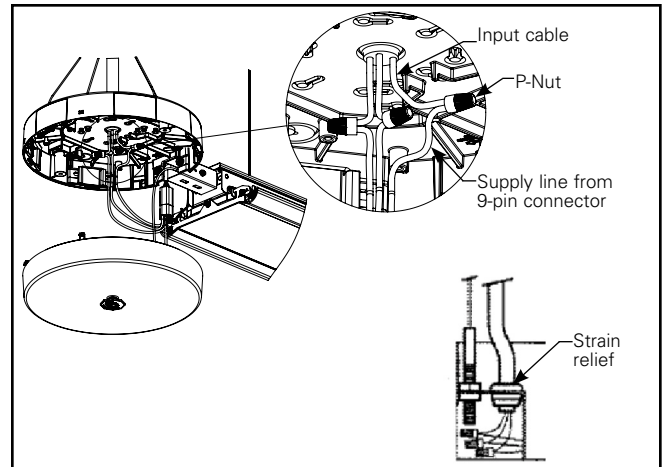

Figure 9.
7. Using approved wire connectors, Connect power and dimming wires, sensor cable to power pack and/or EM test switch cable (Figure 9). Secure power feed with the strain relief. Confirm all wiring connections are correct.